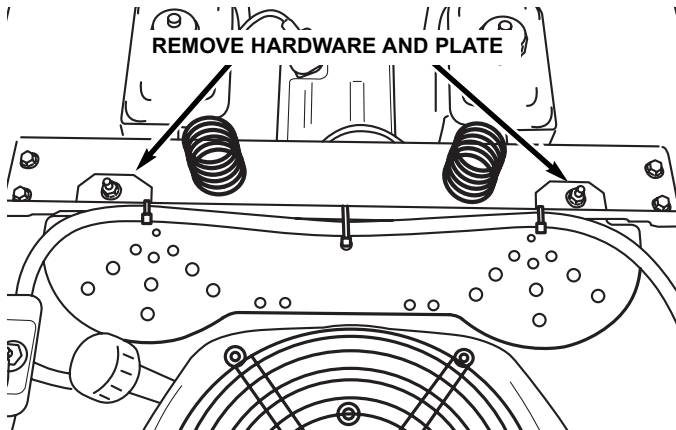

FIGURE 5.1
4. Remove pump fan cover plate to expose top of hydro pumps and linkages. See Figure 5.1.